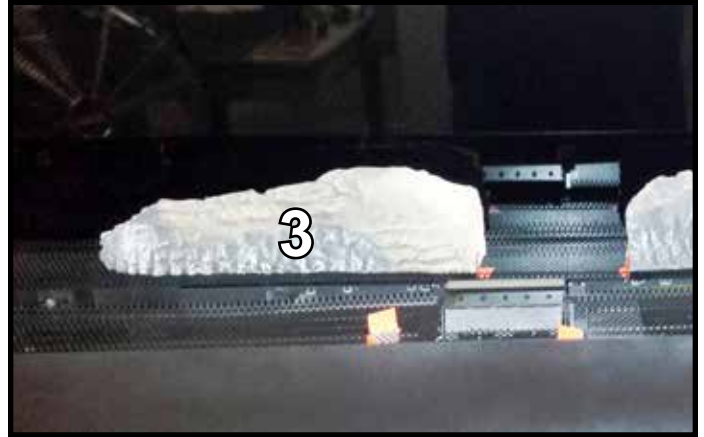

Figure 8. Log #3 (571-705)
11. Install left rear log #3. Right side of log #3 should touch the locating tab. Keep left end of log #3 pushed back. See Figure 8.